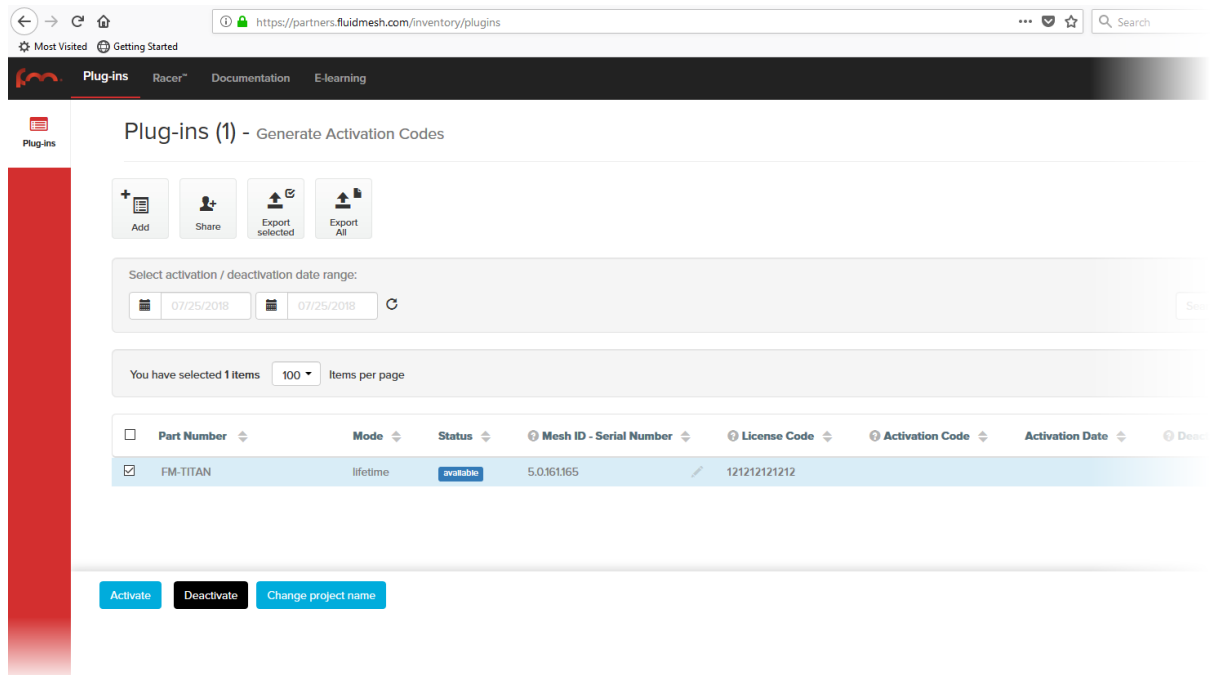

Figure 66. Partner Portal Plug-ins page (License code plug-in)
- When you purchase a generic 16-digit *License code*, the License code and corresponding plug-in will be listed on the Plug-ins page (Figure 66 \(page 157\)).